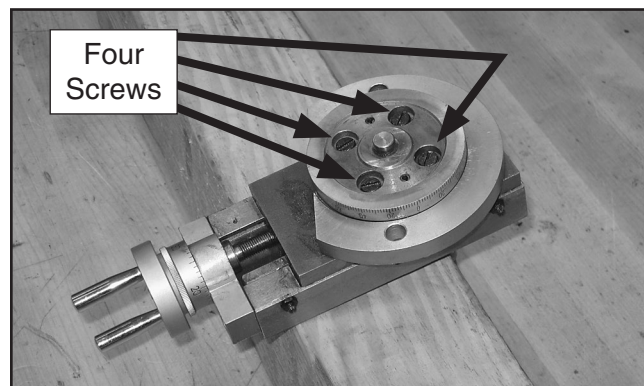

Figure 5. Locating four screws on underside of compound slide.
3. Support the removed compound slide on a block of wood (or something similar), as shown in **Figure 5**, remove the four screws on the bottom, and set them aside for later use.